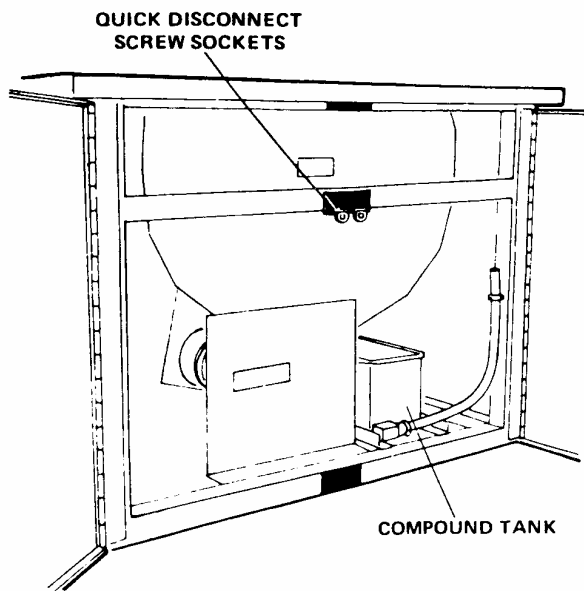

Figure 2-4. Model BB1224 with Front Doors Open
**MODEL BB1224.** To open front doors, push in and turn quick disconnect screws 1/4 turn counterclockwise. (See fig. 2-4.)